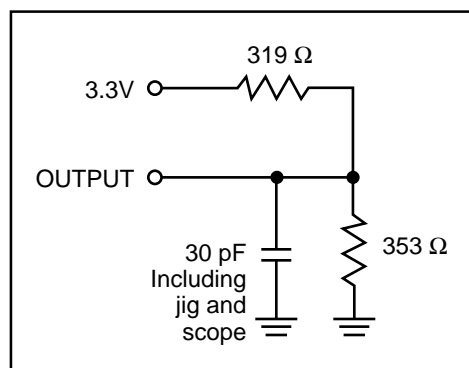

Figure 1.
1. Test conditions assume signal transition times of 3 ns or less, timing reference levels of 1.5V, input pulse levels of 0 to 3.0V and output loading specified in Figure 1.
Output Load	See Figures 1 and 2